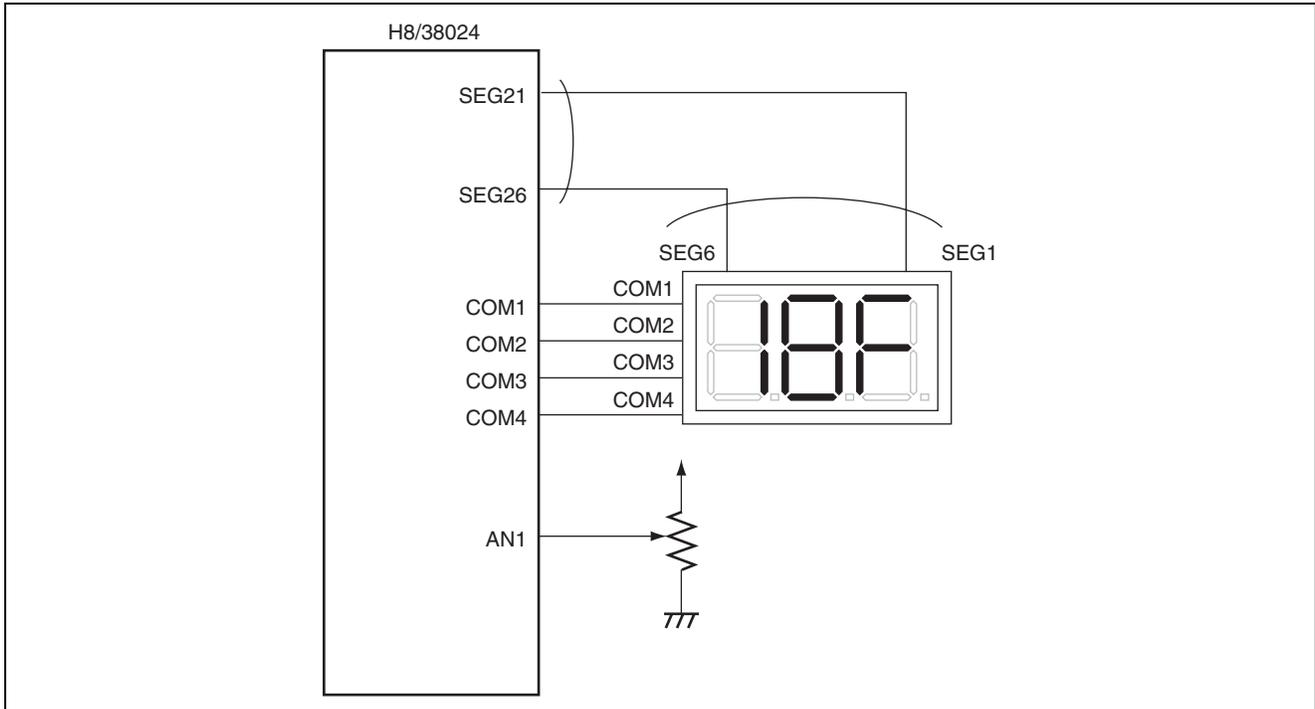

Figure 1.1 Configuration for the Sample Task
4. Figure 1.1 shows the connection of the sample task.